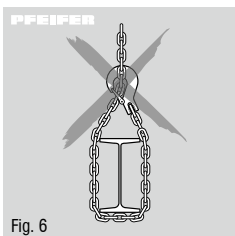

Fig. 6
- The load chain must not be used as chain sling (Fig. 6), nor may it be pulled across sharp edges.